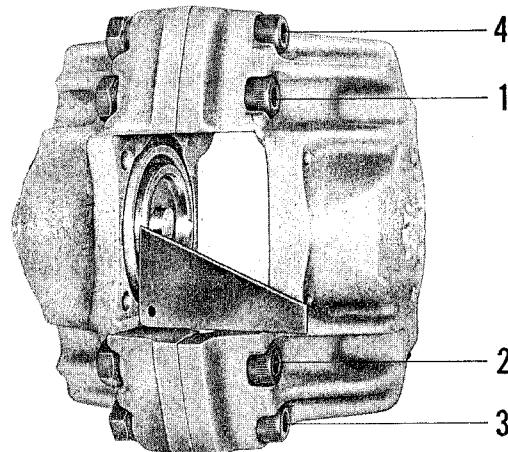

Fig. 48
- Tighten the bolts in two stages (in first stage, apply 50% of the specified torque, in second stage 100%) and in the sequence shown in Fig. 48.